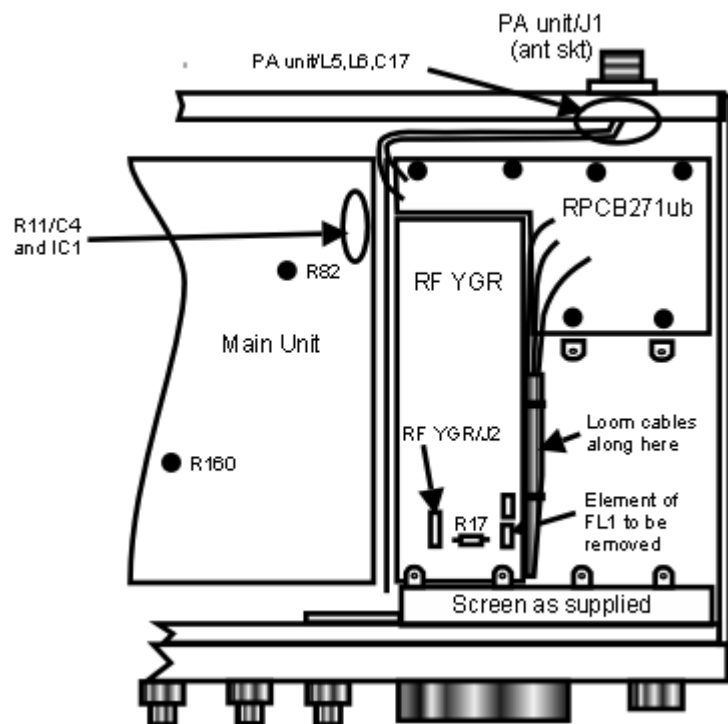

Fig.2: IC271 Layout
- 5) See Fig.2 and Fig.3. Locate PA unit/J1, the antenna socket. Carefully remove the leads of PA Unit/L5, PA Unit/L6 and PA Unit/C17 from PA Unit/J1. Solder the free ends of these components together about 3mm away from the antenna socket centre pin.
- 18) With the cable ties supplied, neatly 'loom' the wires and cable you have just installed alongside board RF YGR - see Fig.2.